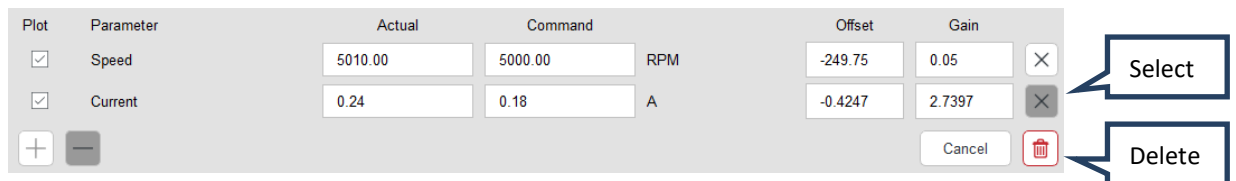

Figure 48: Delete plot
- Select the cross icon  for the parameter that has to be deleted and then click the delete symbol  as shown in Figure 48.